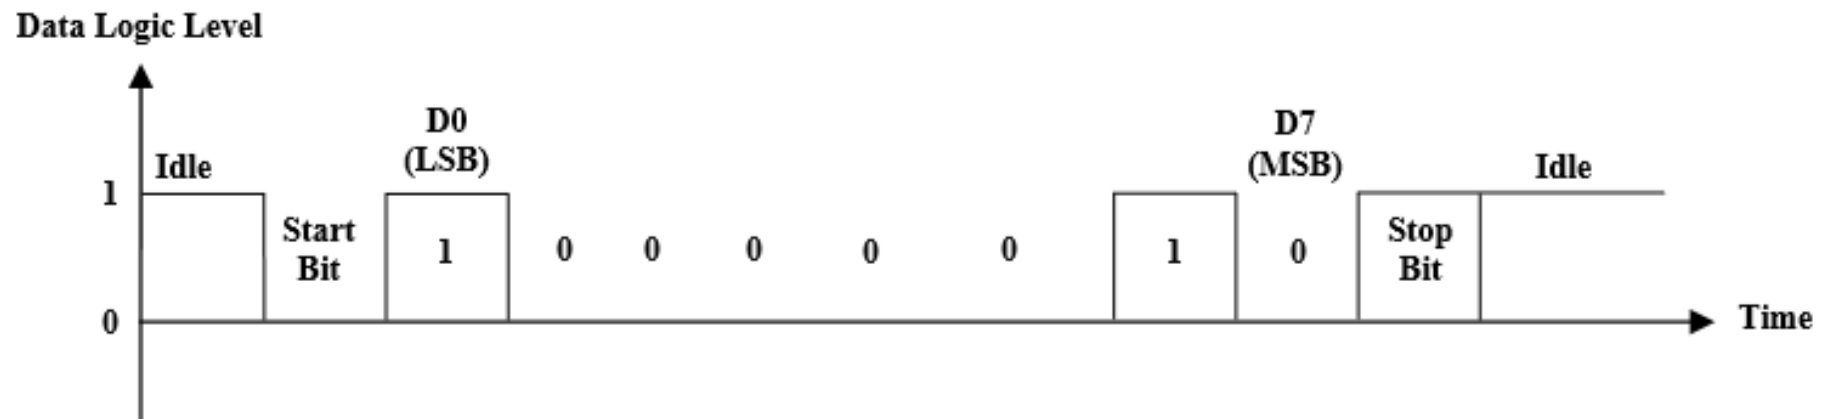

Figure 8.4 Framing ASCII 'A' with one start bit and one stop bit
- For instance, the ASCII 'A' or 0x41 or 0b01000001 can be framed in the following way shown in Figure 8.4 below.